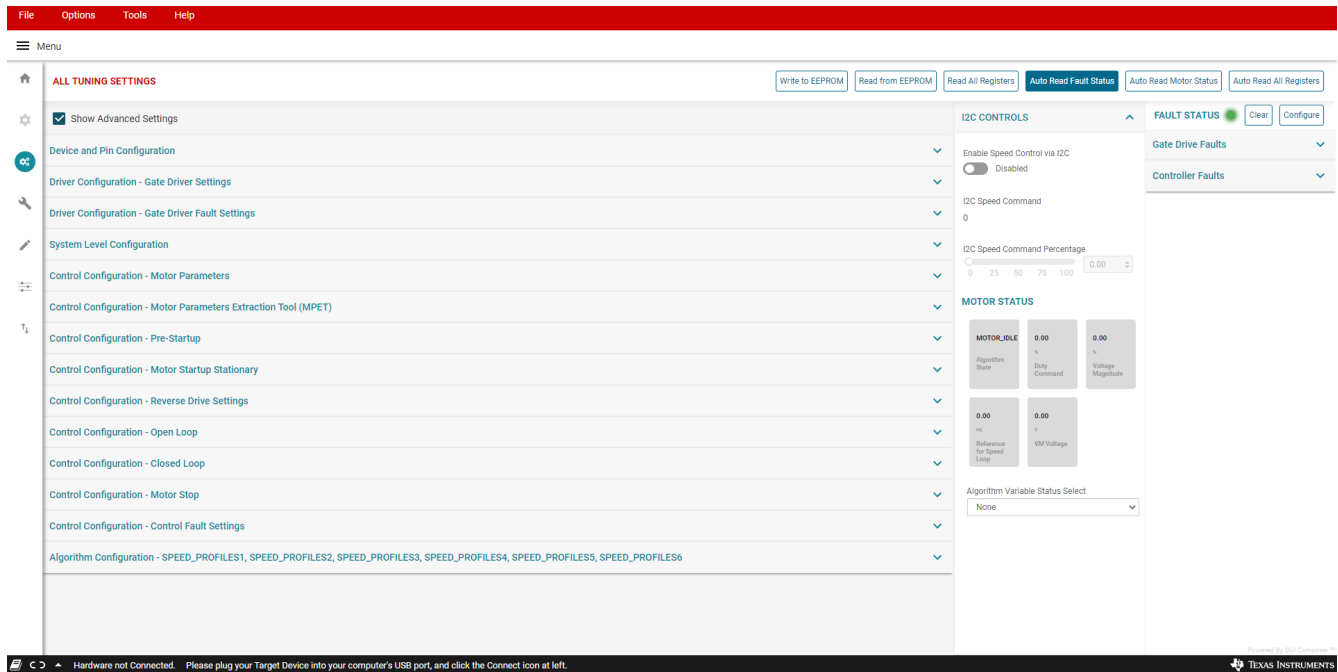

Figure 3-1. Fault Status
- b. Clear the fault status registers by clicking on the "Clear" button in the Fault Status side panel to the right as shown in Figure 3-1